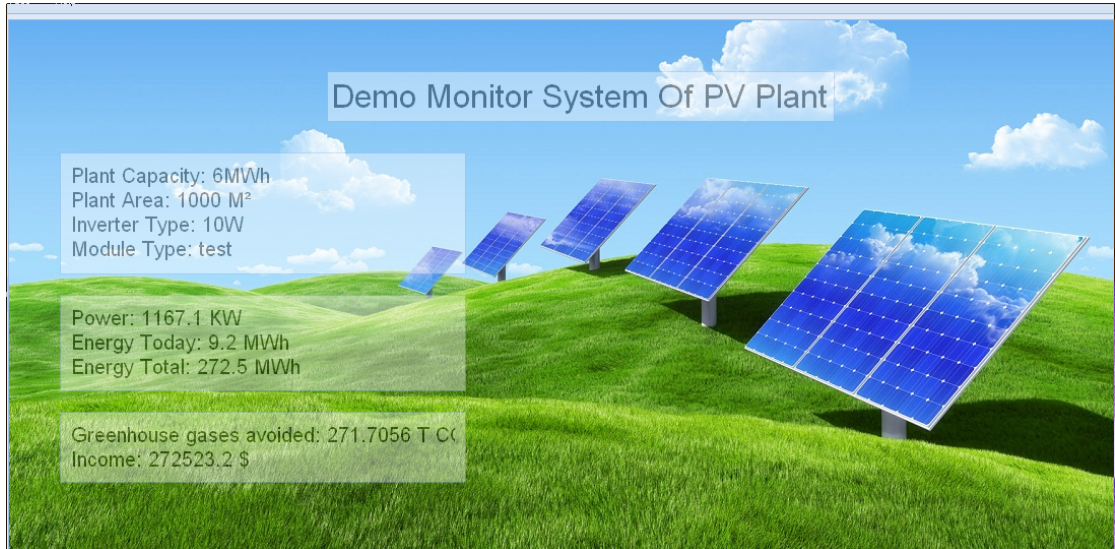

Figure 3-4-3
3. Single click “Submit”, the main interface will display as figure 3-4-3.